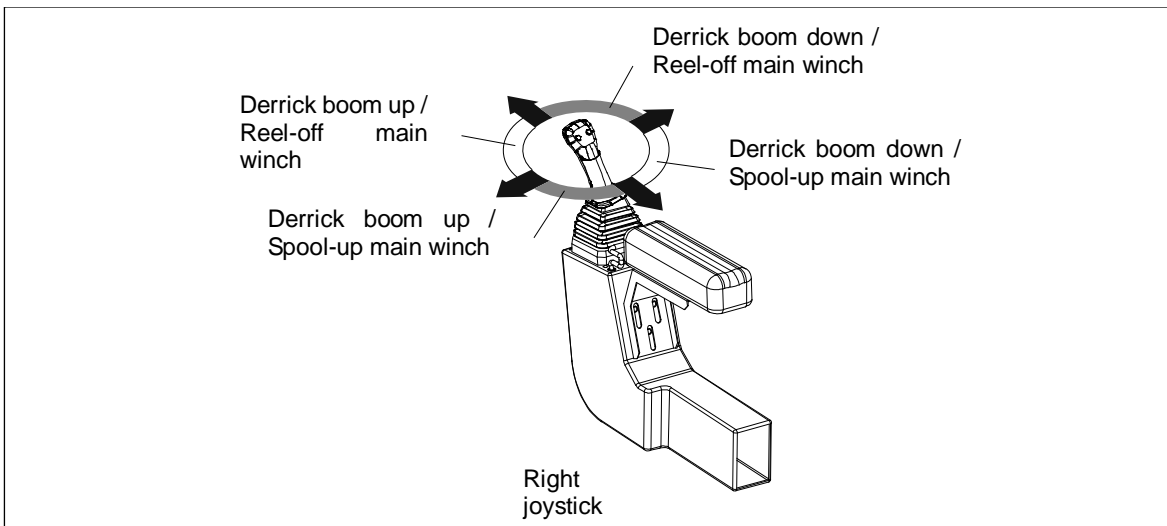

Figure 7-27 Derrick + Main Winch
- (1) You can derrick the boom and move the main hook up or down at the same time. For this type of move, it is necessary for the operator to move the joystick in two adjacent directions. For example, to move the boom and main hook down, push the right joystick up and to the right (1:30 clock position). Refer to Figure 7-27. The other movements on the right joystick are as follows:
- (2) Push up and to the left (10:30 clock position) – the boom moves up and the main hook moves down.
- (3) Pull aft and to the right (4:30 clock position) – the boom moves down and the main hook moves up.
- (4) Pull aft and to the left (7:30 clock position) – the boom moves up and the main hook moves up.